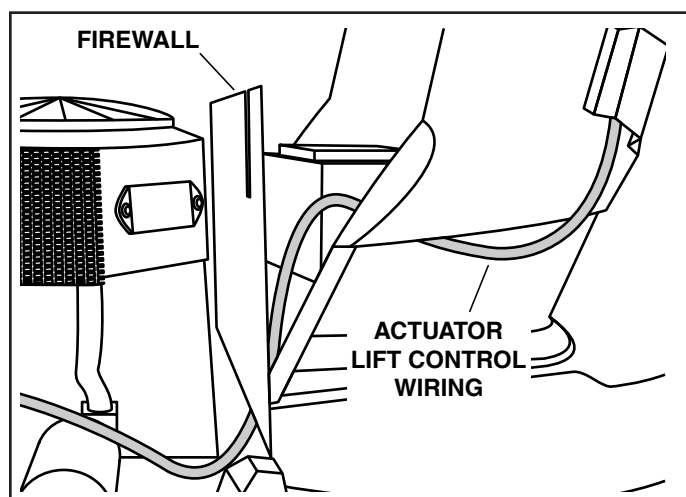

Figure 16.
3. See figure 16. Route the wiring of the actuator lift control as shown, going up through the top vent opening in the dash and then underneath the firewall.